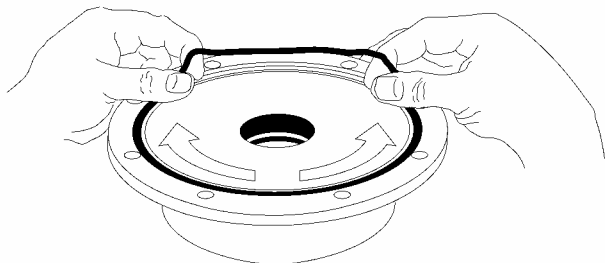

Figure 12 – Head O-ring Installation
11. Install a new head O-ring (72) in the groove on the inside face of the head (20). Lay the O-ring flat and start in on one side of the groove, stretching ahead with the fingers, as shown in Figure 12.